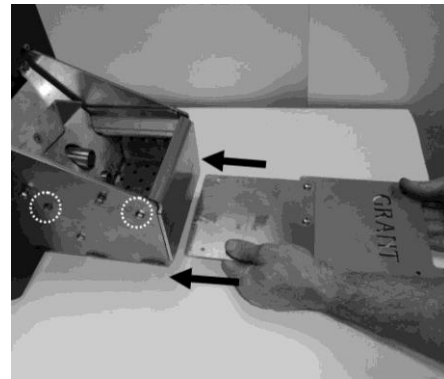

Fig 10.5
6. Check the clearance of the brazier using the 'Grant' clearance gauge. Insert the gauge into the brazier as shown in fig 10.5. The gauge should slide in using manual force only.
- b. Insert the gauge as shown in fig 10.5.